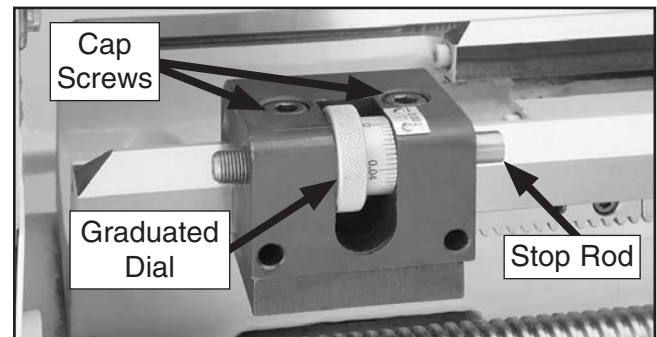

Figure 66. Micrometer stop.
2. Loosen the cap screws shown in **Figure 66**, then use the carriage handwheel to position the carriage and cutting tool at the desired stopping point.